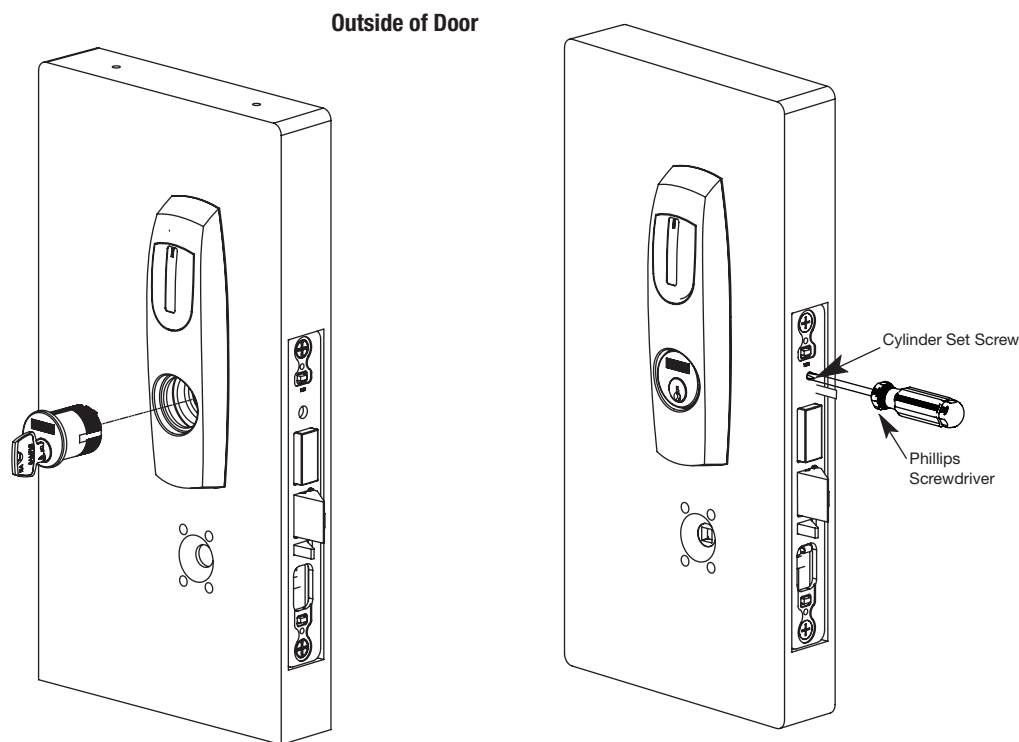

Fig. 8B
2. Withdraw the key about 25% out of the cylinder before inserting into the escutcheon (Fig. 8B).